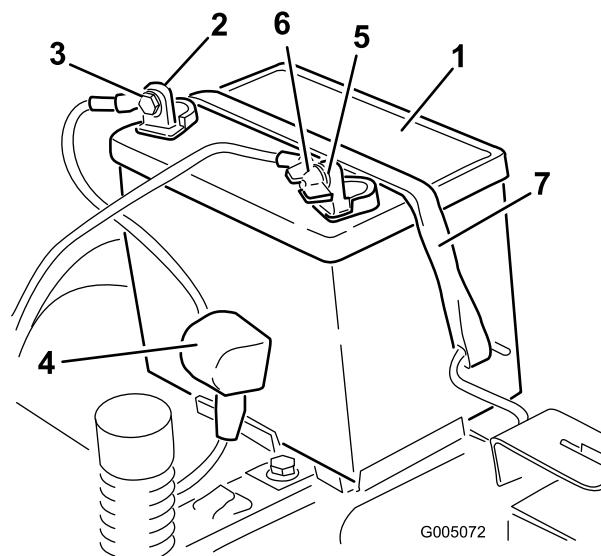

Figure 31
4. Disconnect the negative (black) ground cable from the battery post (Figure 31). Retain all fasteners.
5. Slide the rubber cover up the positive (red) cable. Disconnect the positive (red) cable from the battery post (Figure 31). Retain all fasteners.
6. Remove the battery hold-down (Figure 31) and lift the battery from the battery tray.
1. Position the battery in the tray with the terminal posts toward the operating position (Figure 31).
5. Secure the battery with the hold-down (Figure 31).